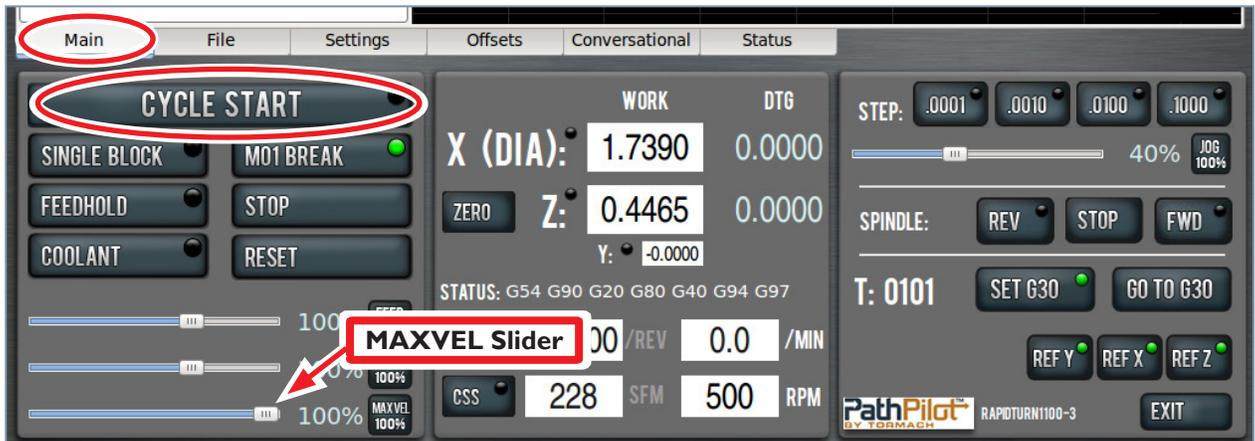

Figure 4.35
1. On the *Main* tab, click and drag *MAXVEL Slider* to zero percent (see **Figure 4.35**).
2. Click *Cycle Start* (see **Figure 4.35**); click and drag *MAXVEL Slider* to slowly increase allowed velocity. Bring velocity back down to zero when tool is close to part; double-check DRO values. If everything looks correct, move *MAXVEL Slider* back up to resume running part program.